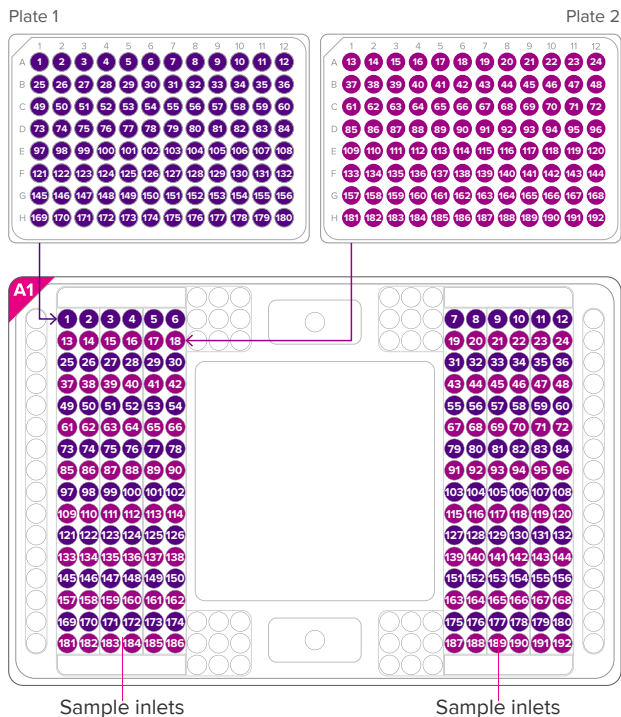

Figure 6. Sample loading map
- b Carefully pipet 3.5 µL of each sample mix from the sample mix plates into the designated sample inlet of the IFC based on the predefined sample map, as shown in Figure 6 on page 4.